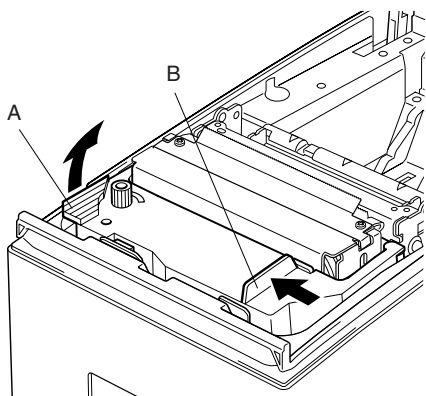

Fig. 5-3 Removing the ribbon cartridge
**Note:** When removing the ribbon cartridge, raise the A section and then remove it by holding the B section as shown in Fig. 5-3.
- ① Open the cover.